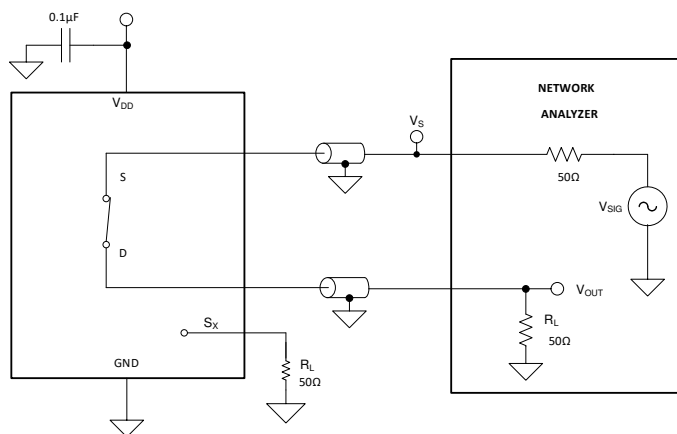

**Figure 6-8. Crosstalk Measurement Setup**
Crosstalk is defined as the ratio of the signal at the drain pin (D) of a different channel, when a signal is applied at the source pin (Sx) of an on-channel. Figure 6-8 shows the setup used to measure, and the equation used to calculate crosstalk.